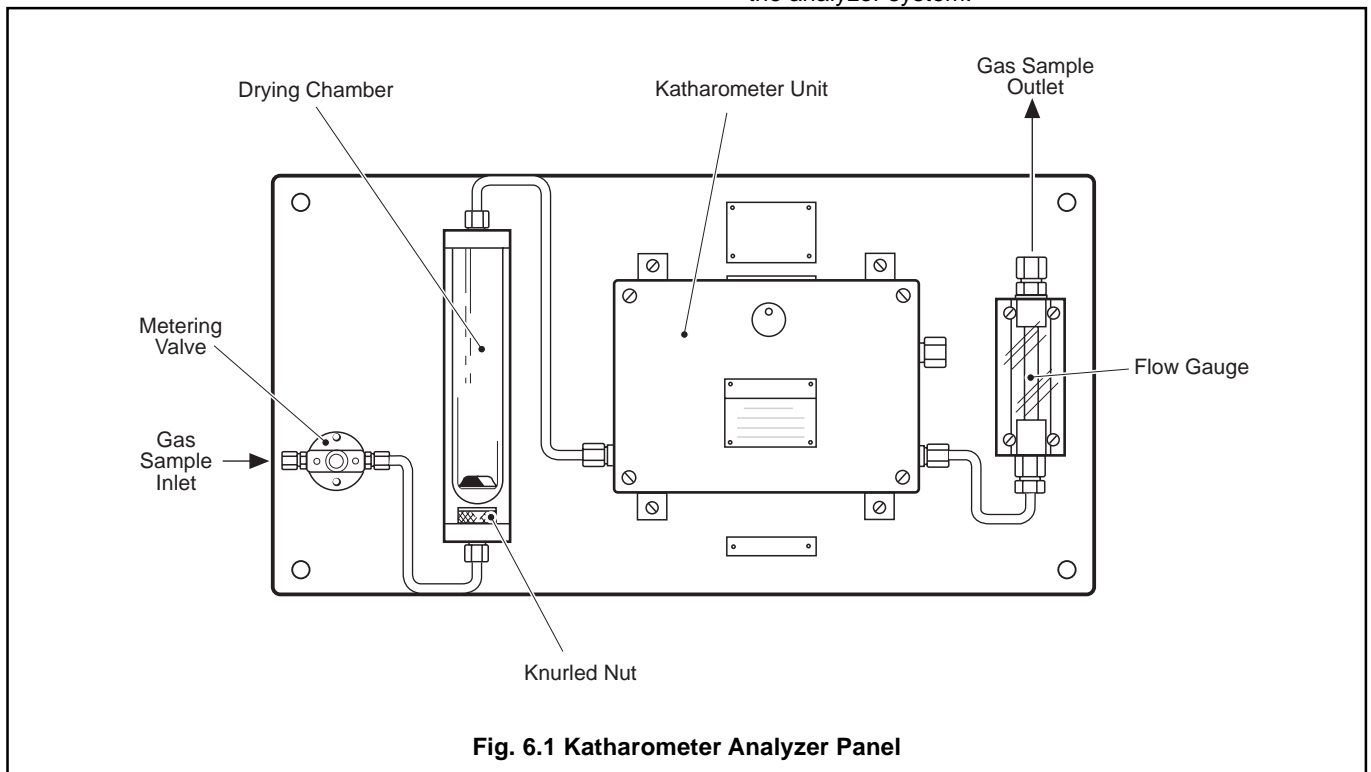

Fig. 6.1 Katharometer Analyzer Panel
6.1 Katharometer Analyzer Panel- Filling the Drying Chamber – Fig. 6.1